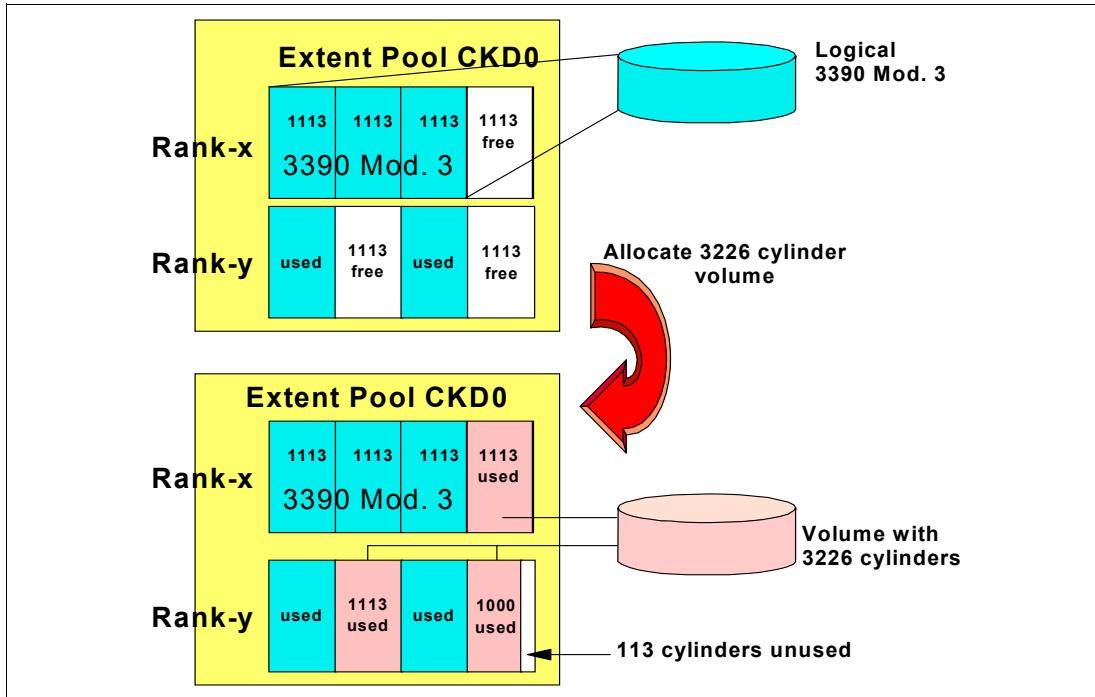
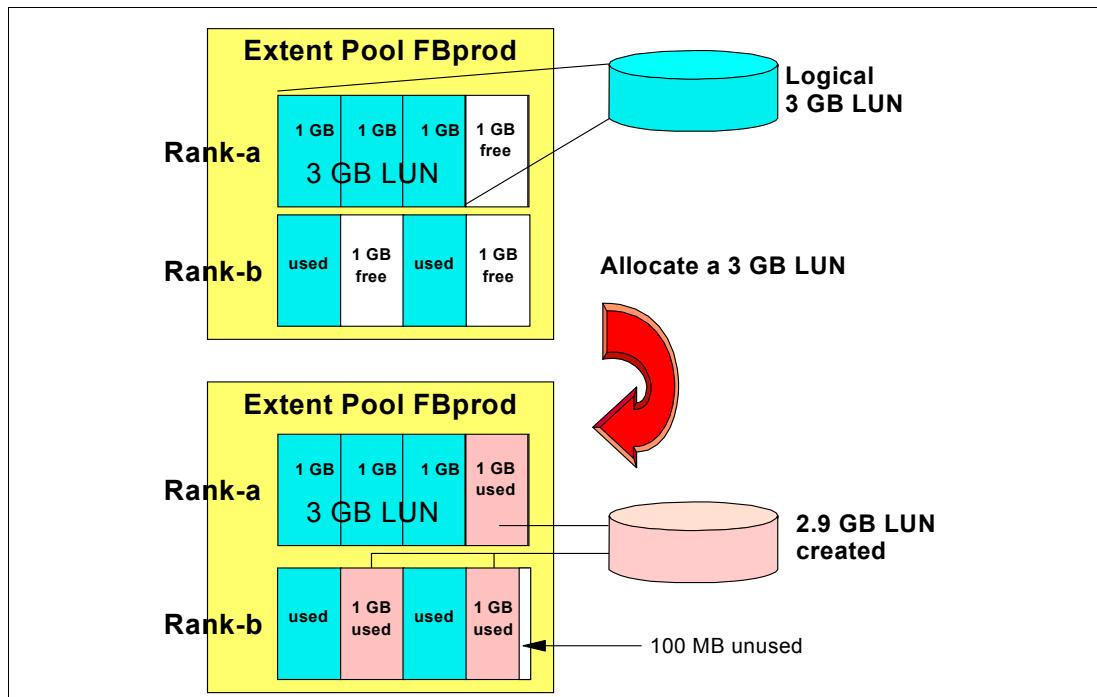

Figure 5-7 Allocation of a CKD logical volume
Figure 5-8 Creation of an FB LUN
If you want to use the maximum number of cylinders for a volume on a DS8700 (that is 262,668 cylinders), you are not wasting cylinders, as it is an exact multiple of 1113 (262,688 divided by 1113 is exactly 236). For even better future compatibility, you should use a size of 260,442 cylinders, which is an exact multiple (78) of 3339, a model 3 size. On DS8000s running older Licensed Machine Codes, the maximum number of cylinders was 65,520 and it is *not* a multiple of 1113. You could go with 65,520 cylinders and waste 147 cylinders for each volume (the difference to the next multiple of 1113) or you might be better off with a volume size of 64,554 cylinders, which is a multiple of 1113 (factor of 58), or even better, with 63,441 cylinders, which is a multiple of 3339, a model 3 size. See Figure 5-7 on page 95.
A CKD volume cannot span multiple Extent Pools, but a volume can have extents from different ranks in the same Extent Pool or you can stripe a volume across the ranks (see “Storage Pool Striping: Extent rotation” on page 100). Figure 5-7 shows how a logical volume is allocated with a CKD volume as an example. The allocation process for FB volumes is similar and is shown in Figure 5-8.